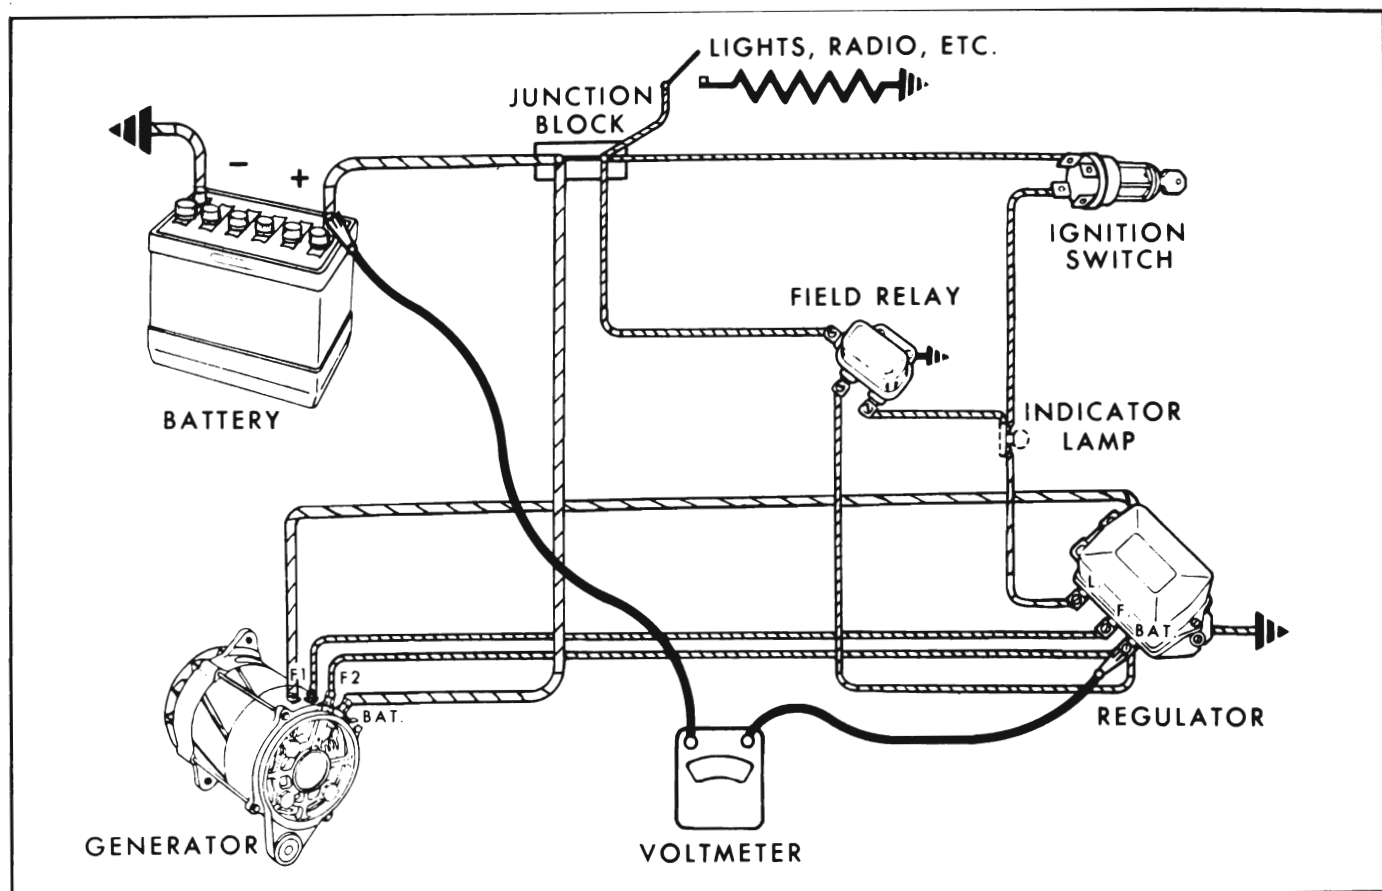

Figure 10-79—Checking for Resistance in Regulator Control Circuit
2. Connect a voltmeter from positive post of battery to "BAT" terminal of regulator. See Figure 10-79.